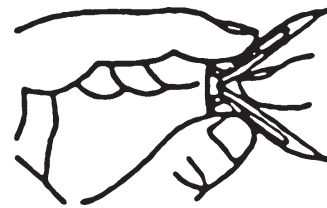

Figure 7 - Folding Anchor
2. Fold wall anchor as shown in Figure 7.